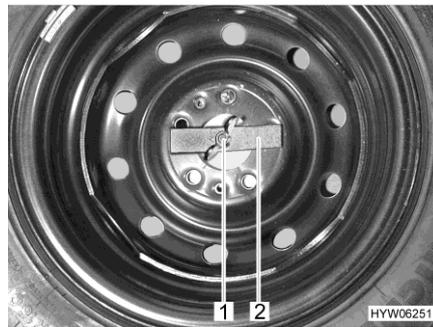

Fig. 240 Spare wheel in the rear storage space
- Loosen the wing nut (Fig. 240,1) and unscrew it.
- Remove the pad (Fig. 240,2).